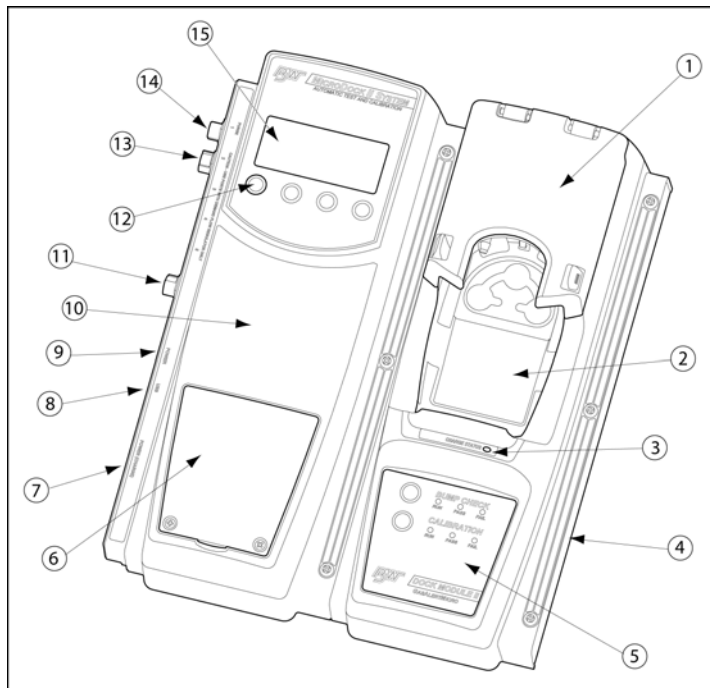

Figure 2. The MicroDock II Docking Module
- Figure 2. and Table 2. The MicroDock II and Docking Module (describes the base station)